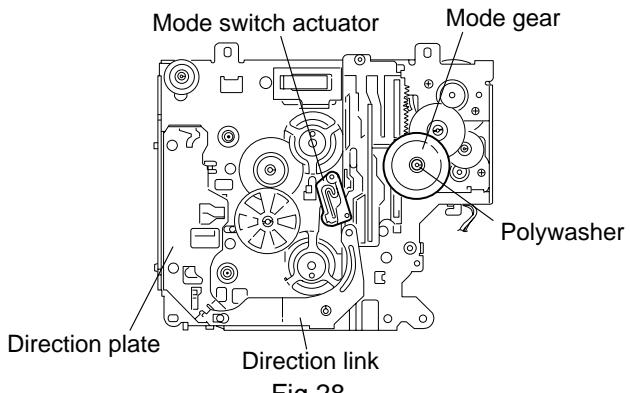

Fig.28
■ Removing the mode gear (See Fig.28 and 31)
■ Removing the mode switch actuator (See Fig.28, 29 and 31)